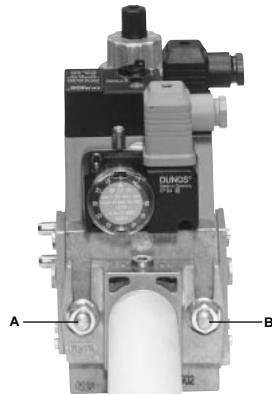
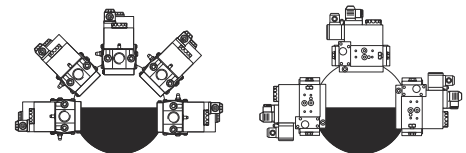

Fig. 20
Fig. 23
3. tighten screws A, B, C and D (Fig. 20 - Fig. 21), according to the mounting positions (Fig. 23);
1. Loosen screws A and B **do not** unscrew (Fig. 20 - Fig. 21).
2. unscrew screws C and D (Fig. 20 - Fig. 21).